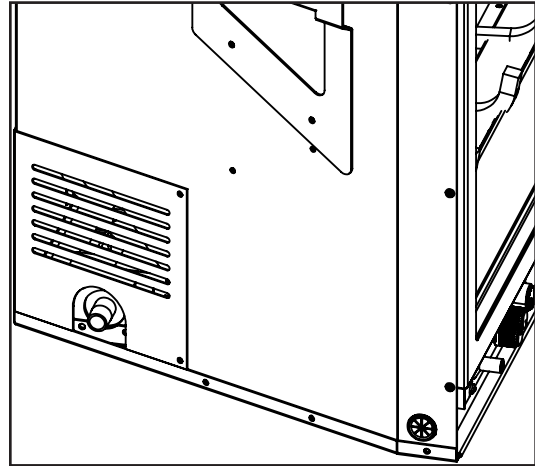

Figure 36: $\frac{3}{8}$ " NPT Male Pipe Nipple with Cover Attached.
- A $\frac{3}{8}$ " NPT male pipe nipple (supplied with the unit) will have to be turned into the valve at the lower left side rear of this fireplace (see Figures 36 and 37). Consult the local authorities for local codes or use the CAN/CGA B149 (1 or 2) installation code in Canada. In the US, gas installations follow either local codes or the current edition of the National Fuel Gas Code ANSI Z223.1.